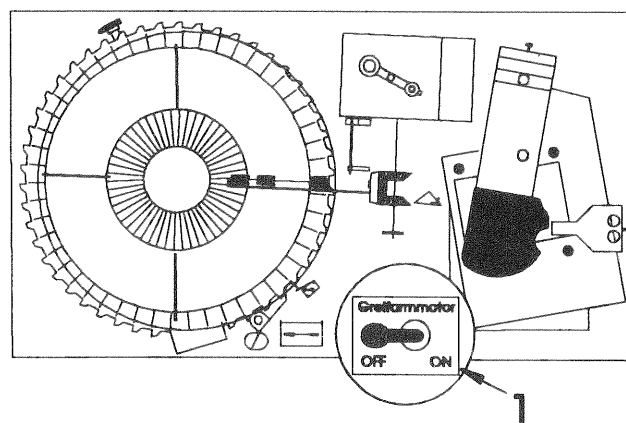

Fig. 36
2. Switch gear switch (Fig. 36) to ON (Griper arm takes the CD back to carrier).
2. Set gear switch (Fig. 36, Pos. 1) to OFF position.